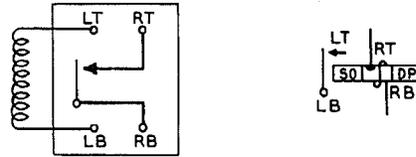

FIG. 47-WINDING AND SPRING TERMINAL ARRANGEMENT AS VIEWED FROM THE REAR (TERMINAL SIDE)-KS-7800 TO KS-7850 AND KS-8280 ADAMS-WESTLAKE RELAYS
2.65 The contact and wiring terminals for these relays are designated as shown in Fig. 47 as viewed from the rear or terminal side of the relays.